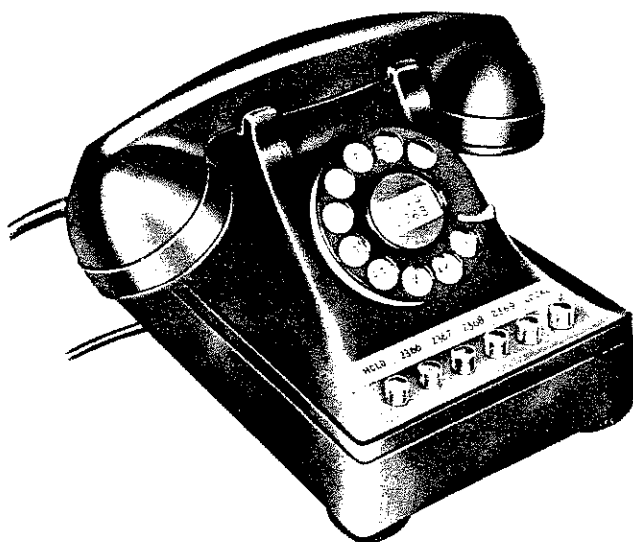

Fig. 1 — 462AC Telephone Set
- 462AC, 466AC, and 566FB telephone sets used with 755A dial PBX (see Fig. 1, 3, 4, and 5).